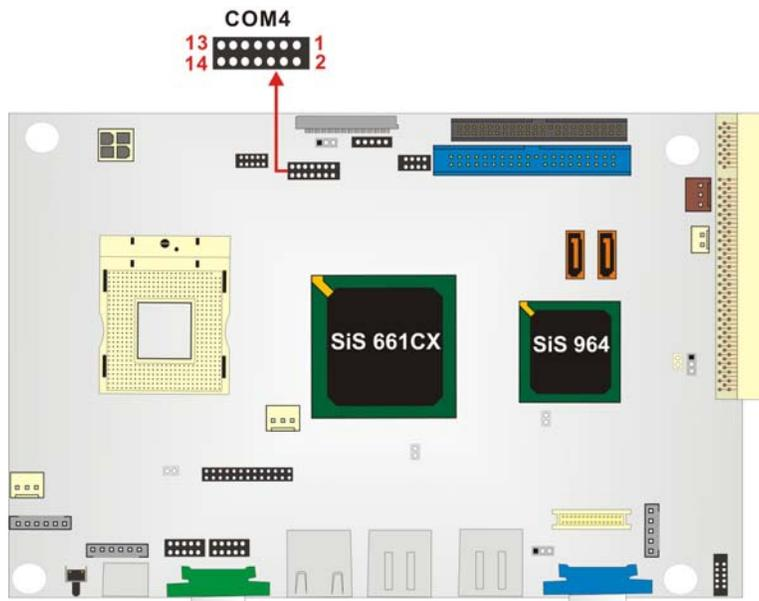

Figure 3-21: RS-232/RS-485 Serial Port Connector Pinout Locations
- CN Location:** See Figure 3-21